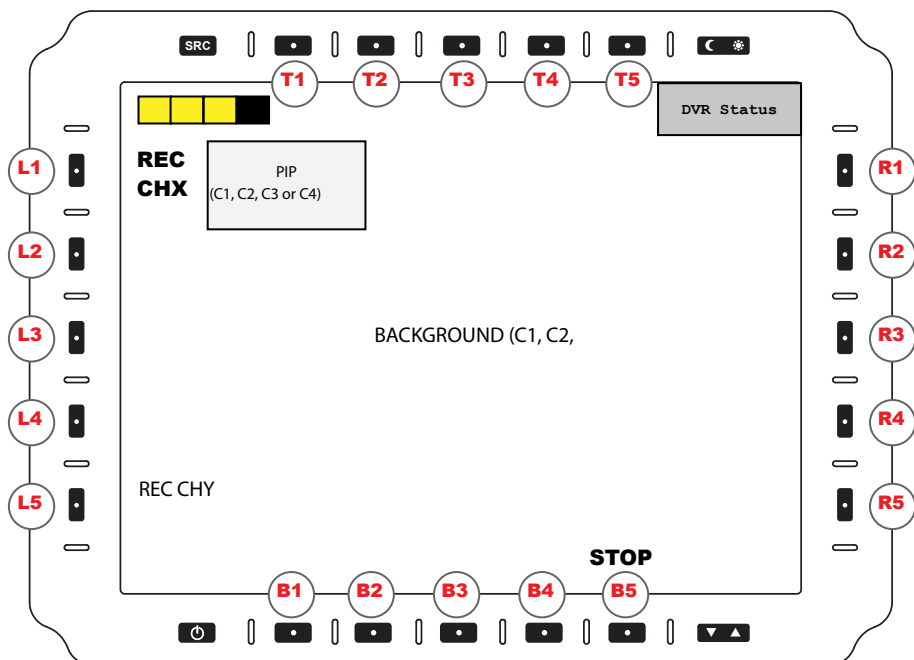
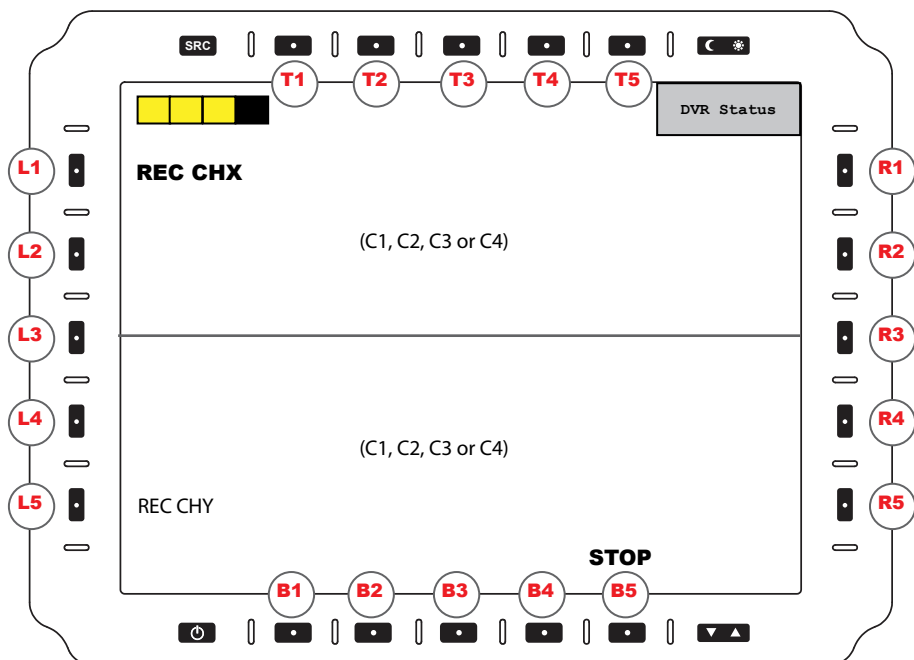
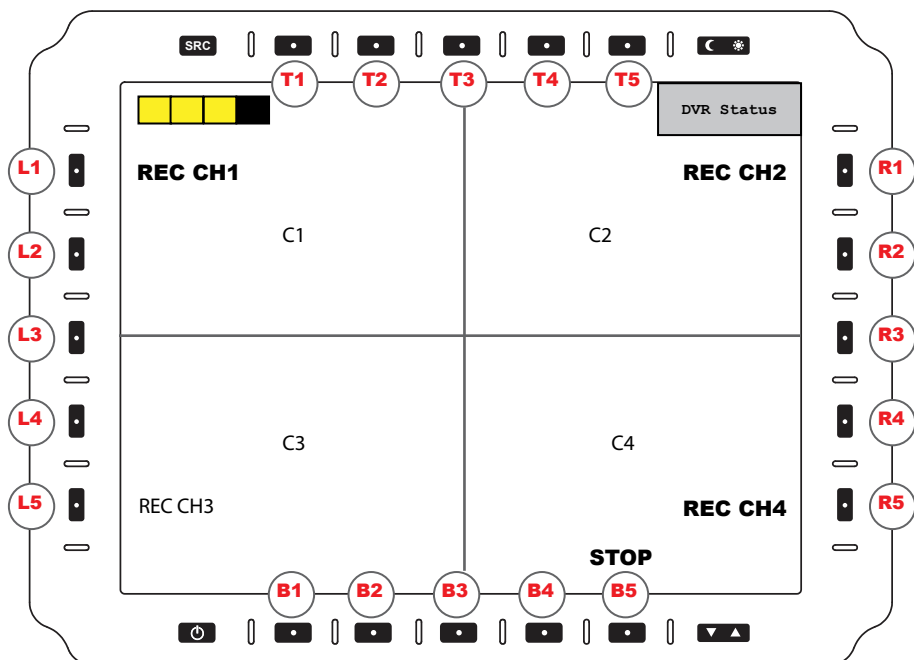
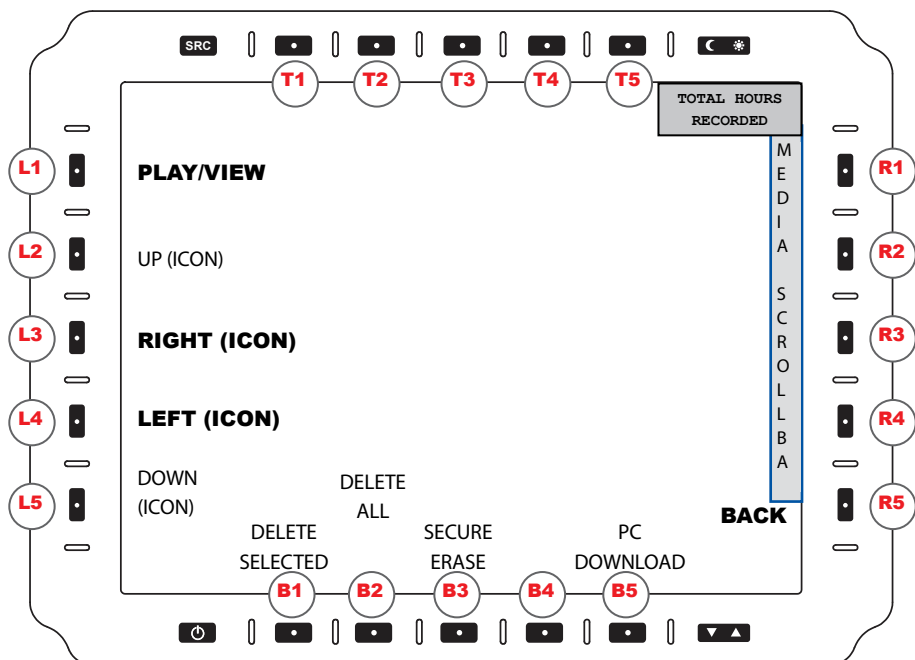

Figure 5
Figure 6
Figure 7
Figure 10
A fundamental characteristic of the DVR is as an integrated Display/Digital Video Recorder. The DVR provides real-time recording of high frame-rate (30 fps) 24-bit hi-resolution imagery. Video files are compressed in the industry-standard MPEG-4 file format (mp4). Snapshots (jpg) can be made. Video and Snapshot files are stored in the Media Gallery (Media Menu, Figure 10).
The DVR stops recording when the user is in the Media Menu (Figure 10).
The Bar Indicator disappears when the user is in the Media Menu (Figure 10) since the DVR stops recording in that menu.
**DVR Operating Modes.** The DVR has two operating modes: Standard (as in Live Video Feed) and Playback, through Media Gallery viewing. See section Media Menu, Figure 10.
- **PIP Layout.** Record source saved in PIP view is default for recording; PIP Record Menu opens (Figure 5). Saves to Media Library (Media Menu, Figure 10).
- **POP Layout.** Record source saved in POP view is default for recording; POP Record Menu opens (Figure 6). Saves to Media Library (Media Menu, Figure 10).
- **QUAD Layout.** Record source saved in QUAD view is default for recording; QUAD Record Menu opens (Figure 7). Saves to Media Library (Media Menu, Figure 10).
**SNAPSHOT\*\* (R5).** Takes a Snapshot (jpg) of source image in view. Opens up the Snapshot Viewer Menu (Figure 15). Snapshot saved to Media Library (Media Menu, Figure 10).
- **MEDIA (L2).** Access to Media Library, a thumbnail grid of recorded video and snapshot files (Figure 10).
**CANCEL (R5)**. Aborts action and returns to the Media Menu screen (Figure 10).
- In Display, go to Media Menu (Figure 10)
- Access Secure Erase (B3) from the Media Menu (Figure 10).
- During SE, a message indicates Secure Erase Progress (X) % to complete.
**SNAPSHOT (L4).** Takes Snapshot of Video Playback frame image from the saved Video in play; Snapshot is saved with current Time/Date stamp to Media Library (Figure 10). After Snapshot is taken, screen returns to the Video currently playing in Video Playback.